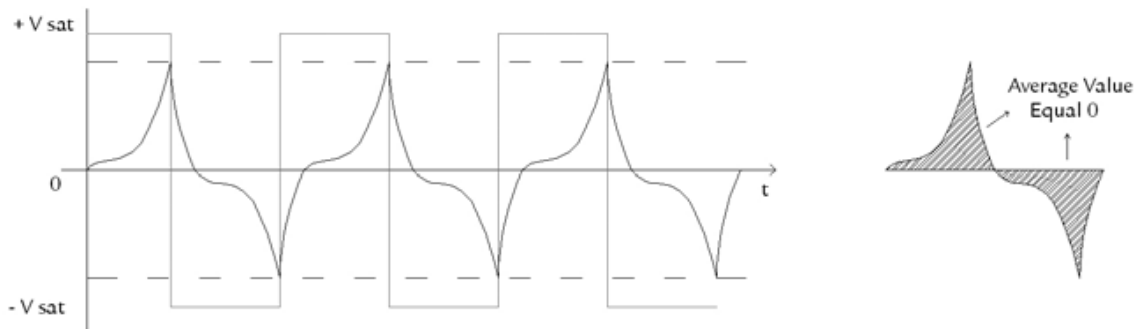

Figure 4. Current by a saturable inductance without external field applied
As we have explained before, the operating principle is based in a saturable inductor. The figure 4 shows the current wave form when a low frequency voltage square wave is applied to a saturable inductor, without any external current, the value of the direct current (DC) is zero. This condition is called Zero Flux Condition.